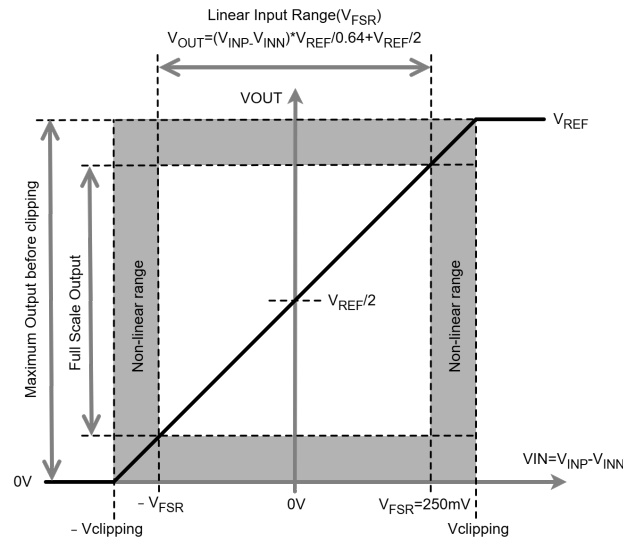

Figure 8.2 Input to Output Transfer Curve of the NSI36C00R
- When VREF is connected to an external reference voltage above 3V, the NSI36C00R has a dynamic output voltage range proportional to the voltage of VREF. The input to output curve is shown in Figure 8.2.